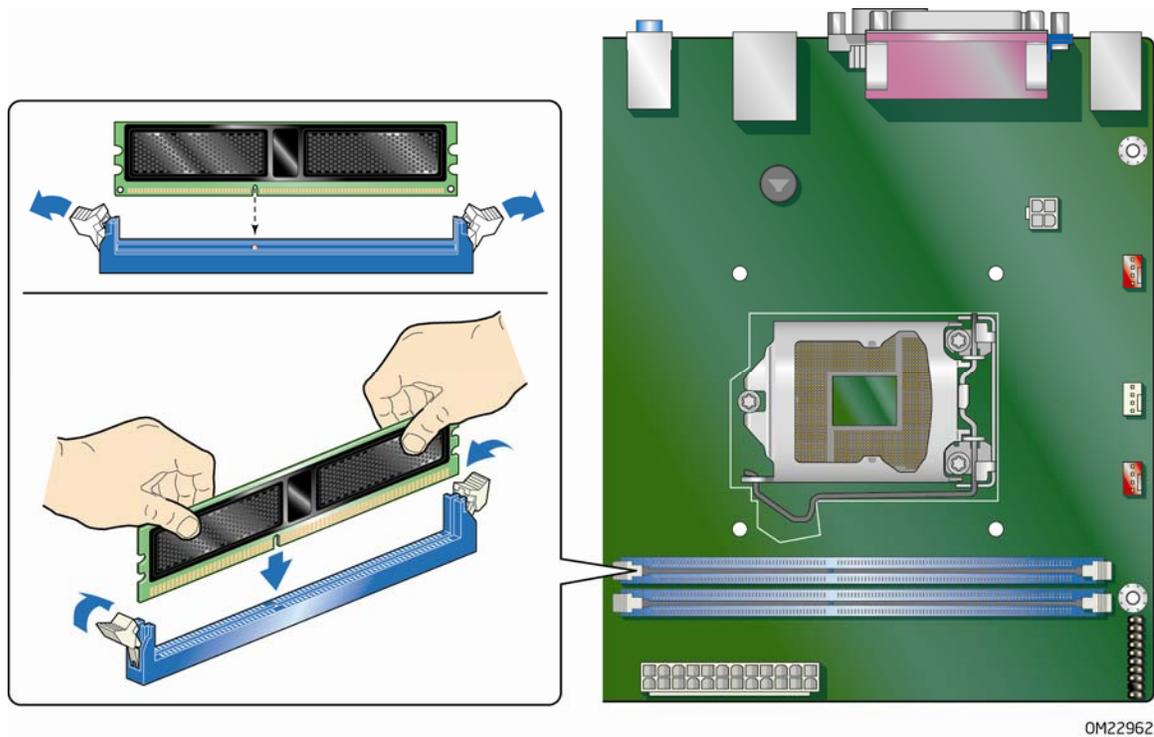

Figure 15. Installing a DIMM
3. Remove the computer's cover and locate the DIMM sockets (see Figure 15).
7. Position the DIMM above the socket. Align the small notch at the bottom edge of the DIMM with the keys in the socket (see inset in Figure 15).